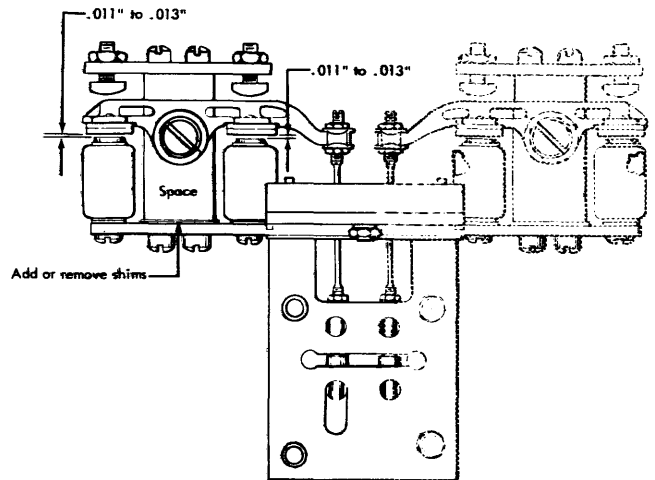

Figure 44. Space Magnet Armature in Neutral Position
3. Add or remove the shims under the pivot support block to obtain .011" to .013" clearance between the start-magnet and stop-magnet cores and the armature (Figure 44). The optimum clearance be-